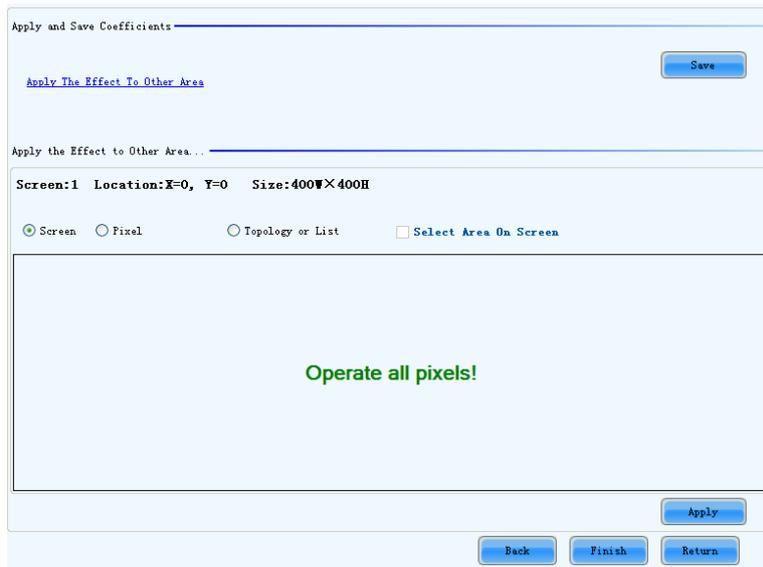

Fig. 7-81 Page for Apply the effect to other area
The adjustment operations in Step 2) and Step 3) can also be applied to other areas that need the same adjustment. Click **Apply The Effect To Other Area** item in Fig. 7-81 to open the page for setting.
- A. There isn't any place to view the typing when inputting the password. Just type in the password directly and the page shown in Fig. 8-79 will change to the one shown in Fig. 7-81;